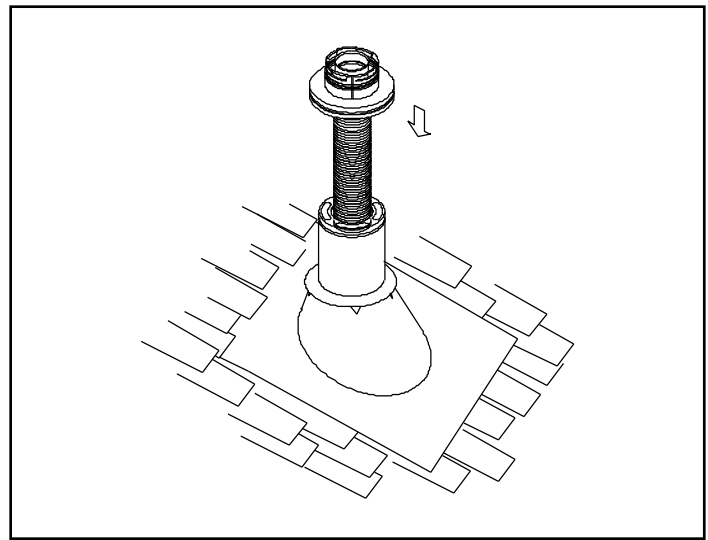
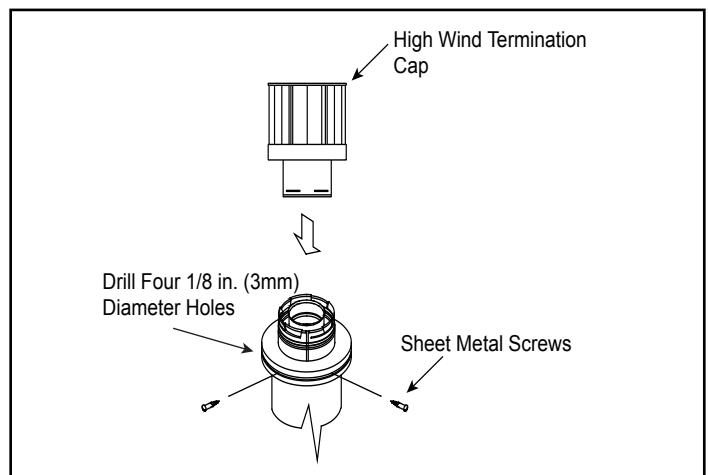

Figure 4.14
Figure 4.15
4. Pass the flex pipe down through the center of the chimney system, and center the top adaptor on the top of the chimney pipe. Drill four 1/8 in. (3mm) diameter holes through the top adaptor, and into the chimney top, preferably from the side of the top adaptor. Ensure that you are drilling into the metal on the chimney. Twist lock the high wind termination cap onto the top adaptor. See Figure 4.14 and Figure 4.15.